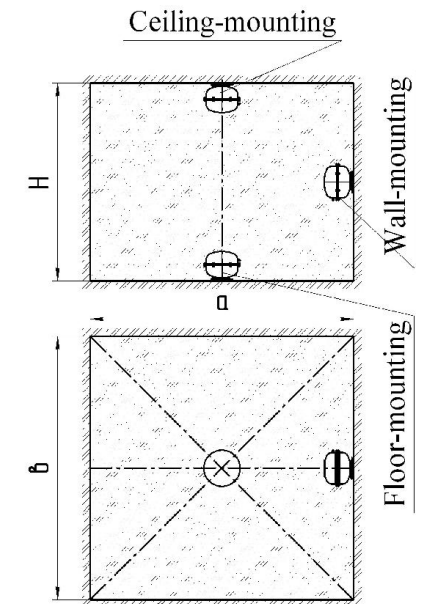

Figure 4
6.3.1 Configuration of powder dispersion and the image of the area where extinguishing is achieved are shown in Figure 4 and in Tables 2...4.